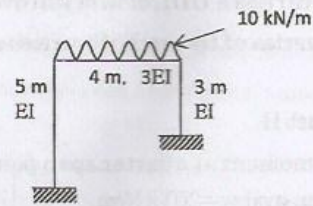

Fig. 15.a.
15. a) Analyse the frame shown in Fig. 15.a by moment distribution method.
- b) Draw the bending moment diagram for the continuous beam shown in Fig. 15.b. by moment distribution method.